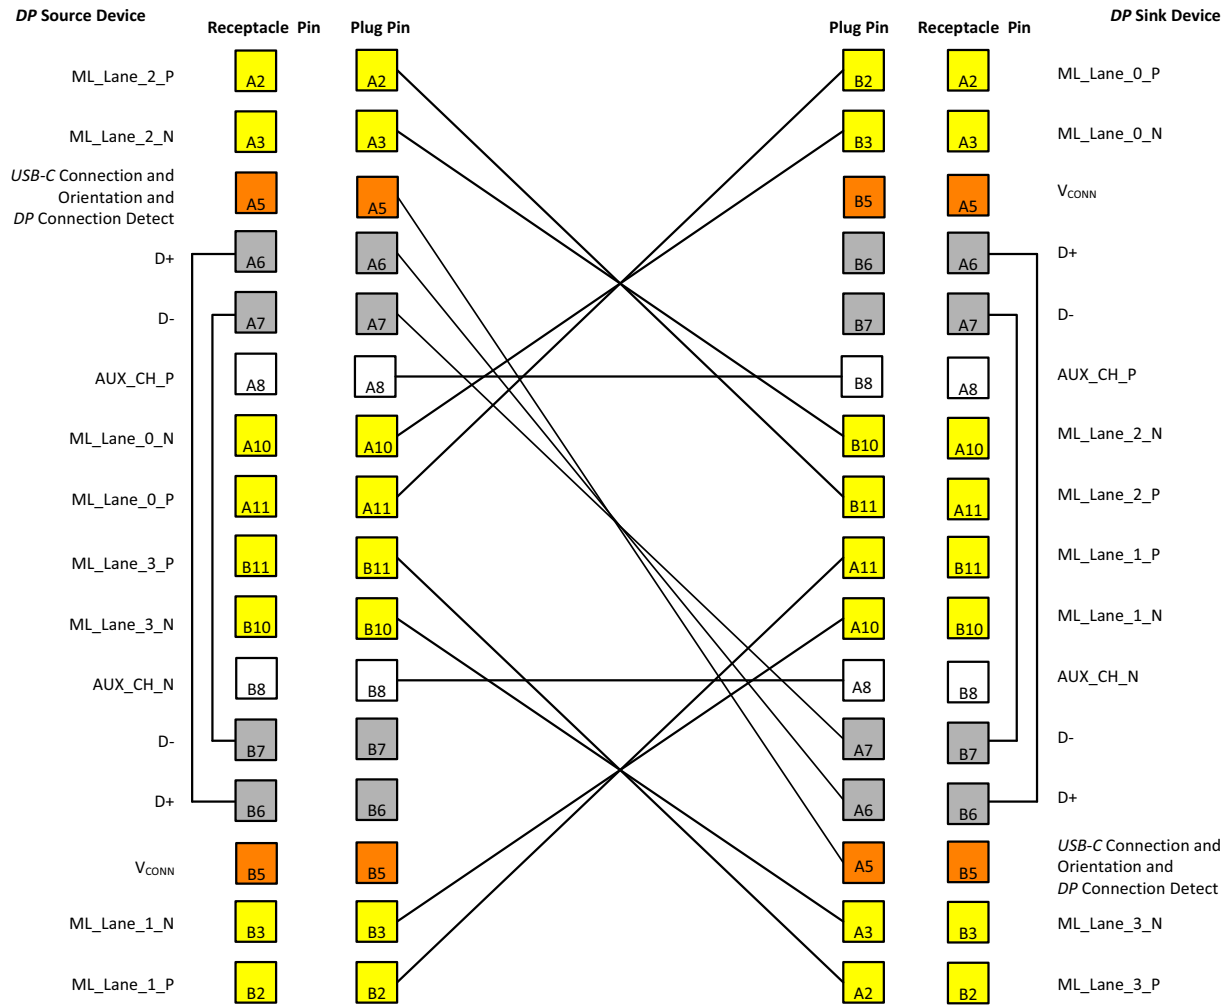

Figure 4-4: Scenario 1 Cable Wiring – DP Sink Device Flipped Plug Orientation
- Figure 4-4 illustrates when the DP Source device plug is inserted in normal orientation and the DP Sink device plug is flipped